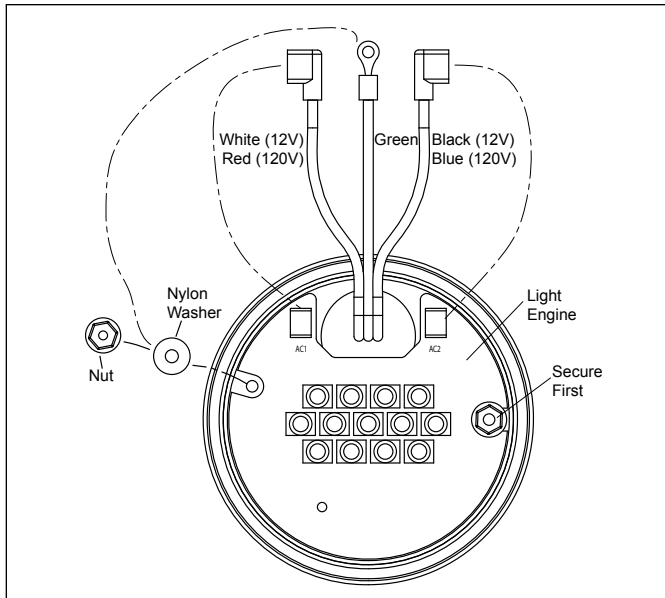

Figure 7. Small Light Engine (PCB) Replacement and Wiring
1. Remove two (2) nuts and two (2) washers.
4. Place new light engine into the fixture with the orientation shown in Figure 7.
5. Secure the light engine with one (1) nylon washer and one (1) nut. Torque to 12 in-lbs.